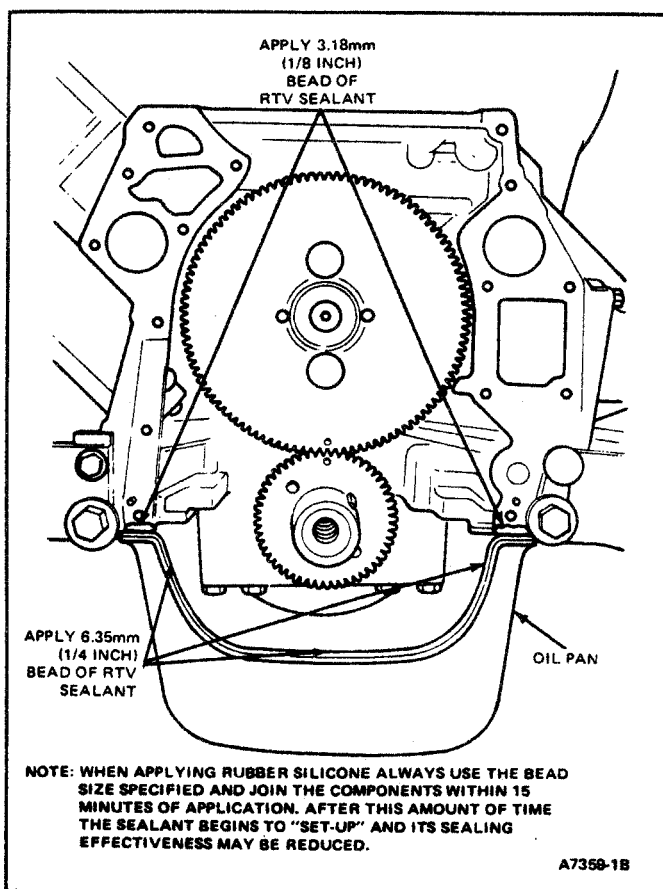

FIG. 37 Front Cover RTV Sealant Installation
9. For in vehicle repair, apply a 3.2mm (1/8 inch) bead of RTV sealant D6AZ-19562-A, or equivalent, to rear corners of oil pan and apply a 6.4mm (1/4 inch) bead of RTV sealant D6AZ-19562-A, or equivalent on oil pan as shown in Fig. 37.